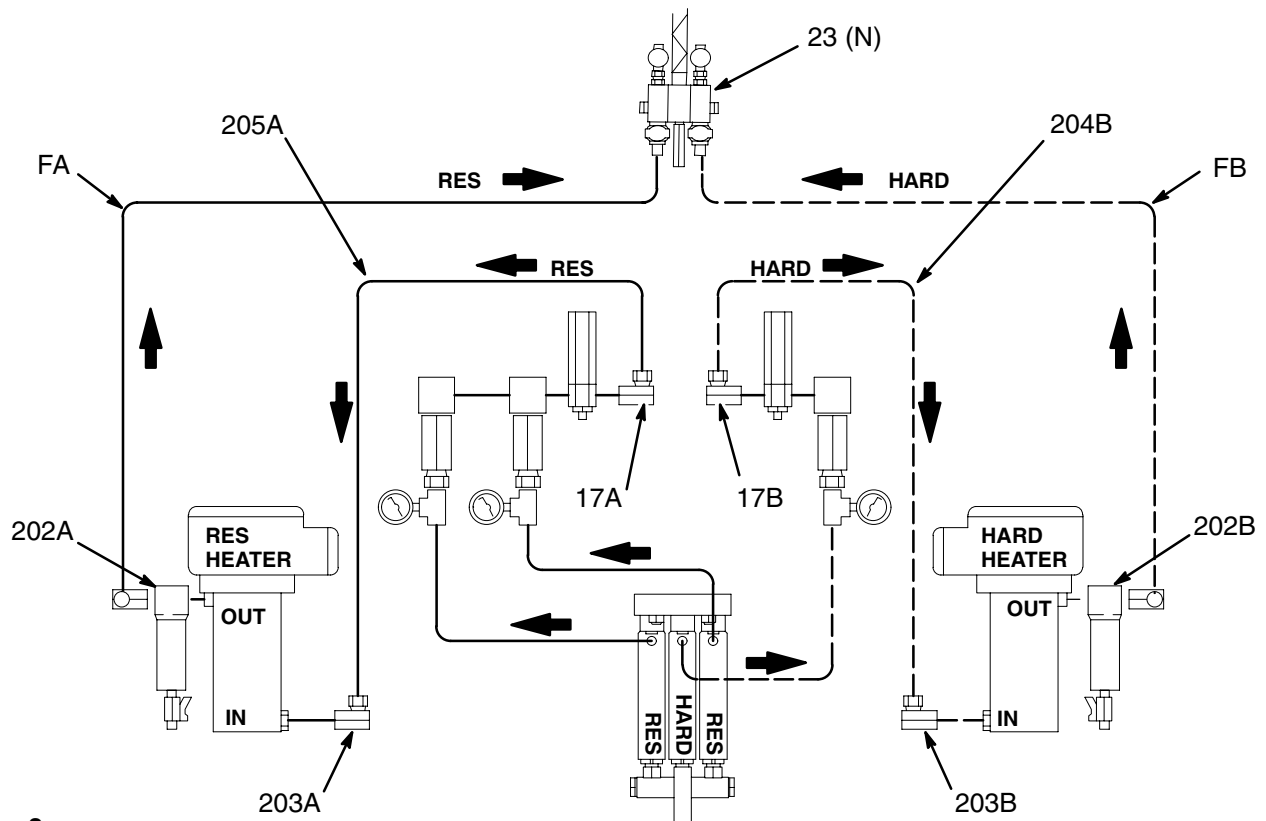

Fig. 8
NOTE: You must provide two hoses (FA, FB in Fig.8) and fittings to run from the heater outlets to the mixer manifold inlets.
1. Loosen the swivel of the unions (17A, 17B) to remove the elbow (16A, 16B) on each side of the mixer manifold (23). Turn the unions (17A, 17B) so the outlet faces up. See Fig. 8 and 9.
2. Connect a new hardener fluid hose (204B) between the union (17B) and the swivel (203B) at the heater inlet. See Fig. 8.
3. Install another hardener fluid hose (FB) between the heater outlet elbow (202B) and the hardener side of the mixer manifold (23). See Fig. 8.